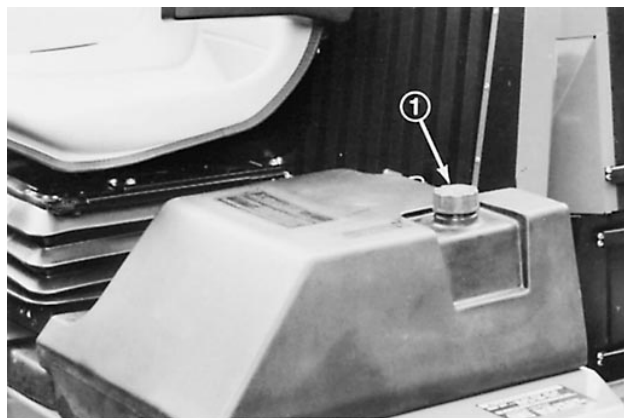

Figure 7
1. Remove the fuel tank cap (Fig. 7).